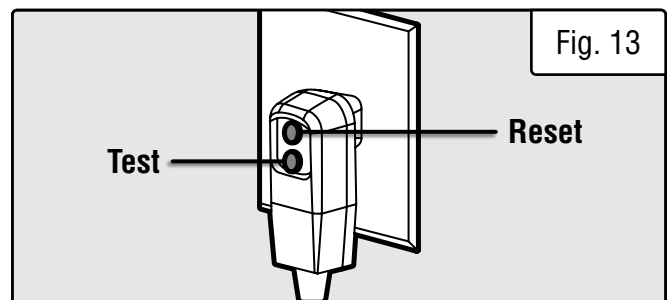

Fig. 13
2. Plug the GFCI into a matching receptacle (see p. 8 for important electrical information). We recommend that you test the GFCI as part of the startup procedure each time you use the pressure washer. Press the RESET button (Fig. 13), and the power indication light should turn ON. Press the TEST button, and the power indication light should turn OFF. DO NOT use if the test fails. Press the RESET button again after completing the test to enable operation.